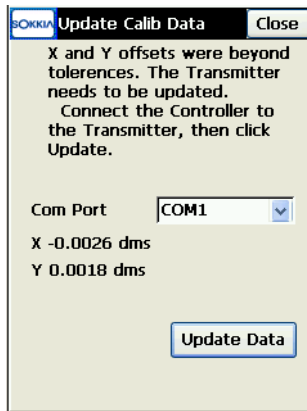

Figure A-20. Field Calibration Results
When the calibration completes, the *Update Calib Data* screen displays the offsets (Figure A-20 on page A-13).
If the offsets were outside the tolerance range, Sokkia SSF will indicate that the transmitter needs to be updated (Figure A-20 on page A-13).
12. On the *Update Calib Data* screen, select the *Com Port* that connects the controller and transmitter and tap the **Update Data** button (Figure A-20 on page A-13).